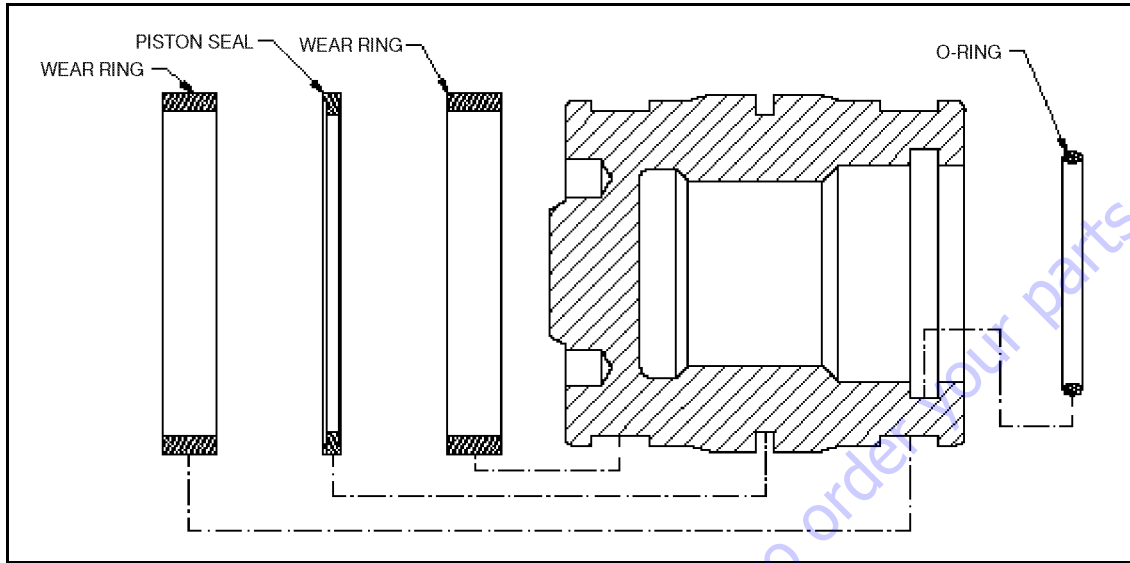
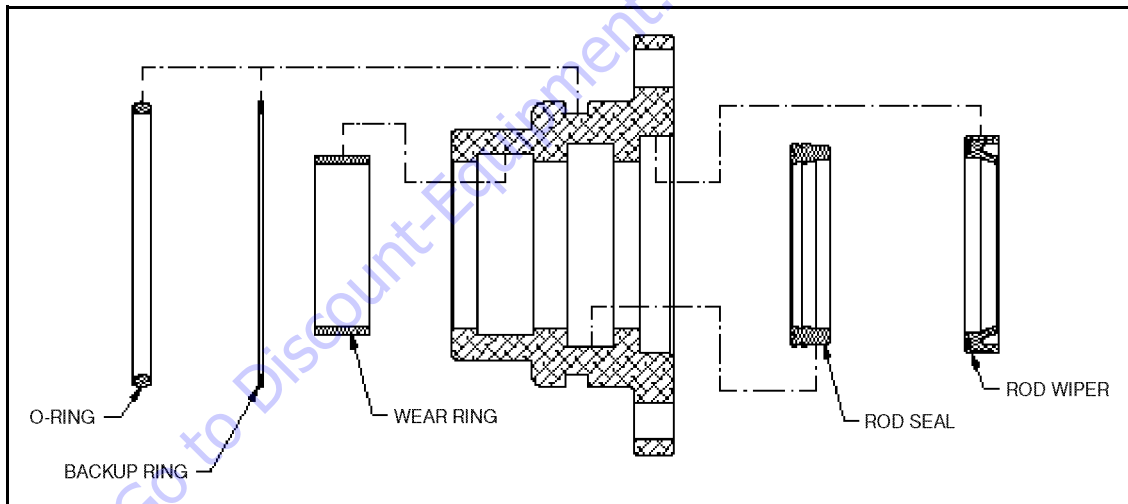

Figure 5-158. Jib Telescope Cylinder Head Gland Detail
Figure 5-159. Jib Telescope Piston Detail
**NOTE:** Refer to Figure 5-158. and Figure 5-159. provided at the end of this procedure for the proper seal locations and orientations. Improper seal orientation will compromise performance!